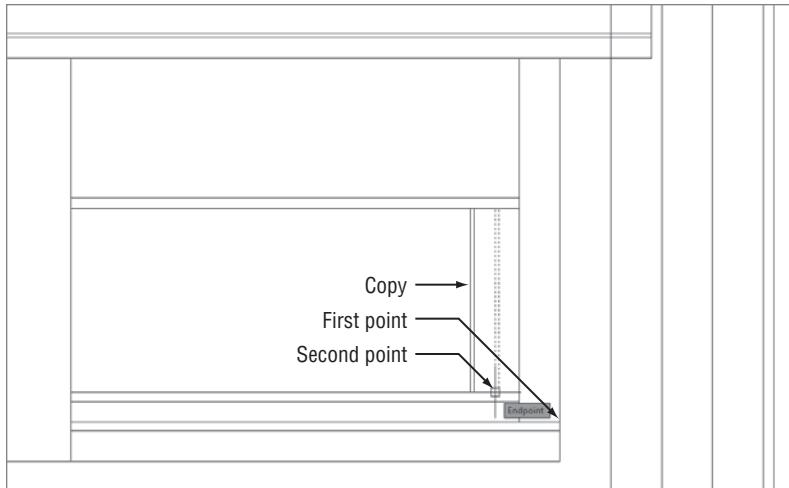

FIGURE 10.23 Copy the railing post to the left using the Endpoint osnaps.
-  3. Start the COPY command, and select the two railing post lines. Using the Endpoint osnap, select the right endpoint of the lower railing as the base point and the lower endpoint of the left railing post line where it meets the railing as the second point, as shown in Figure 10.23.